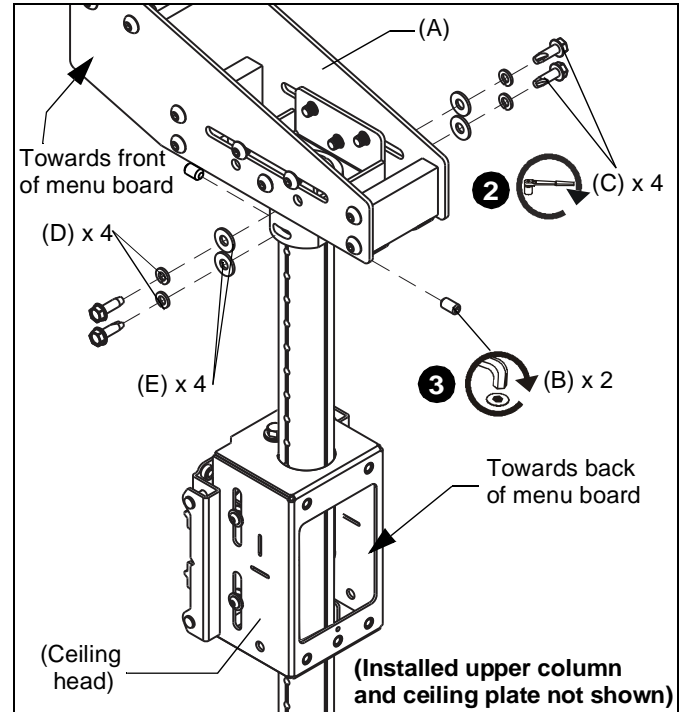

Figure 3
1. Arrange column assembly so that the open side of the ceiling head is facing the back of the menu board. (See Figure 3)
2. Loosely fasten column assembly to array offset (A) using four 5/16" x 1" hex head self-tapping screws (C), four 5/16" split washers (D), and four 5/16" washers (E). (See Figure 3)